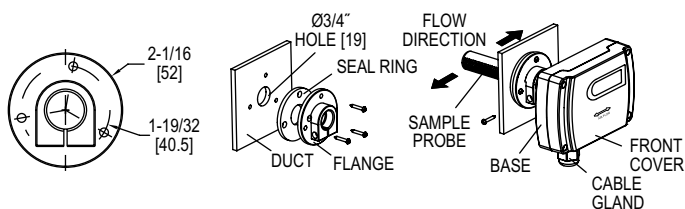

Figure 2B
- To install via the flange as shown in Figure 2B, drill a  $\varnothing 19$  mm hole in the duct, install the seal ring and the flange onto the duct using three of the four provided shorter screws. Then, insert the probe into the duct. Use the last provided short screw to lock the whole enclosure onto the flange.